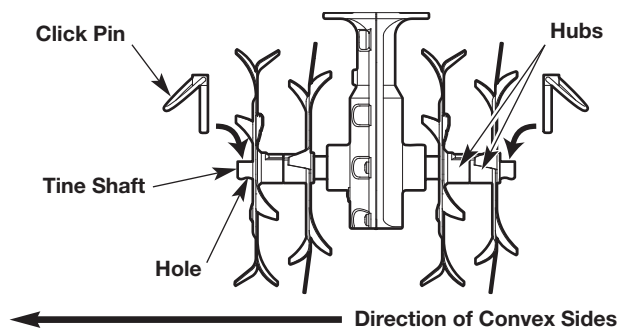

Fig. 5
1. Remove the cotter pin from the end of each tine shaft (Fig. 5). Slide the tines off of the tine shafts. (Fig. 5).
2. Slide the new tines onto the tine shafts. The hubs must face toward each other (Fig. 5). Make sure the convex sides of the tines all face the direction shown (Fig. 5).
3. Insert a cotter pin through the hole at the end of each tine shaft (Fig. 5). Make sure the cotter pins are securely connected.